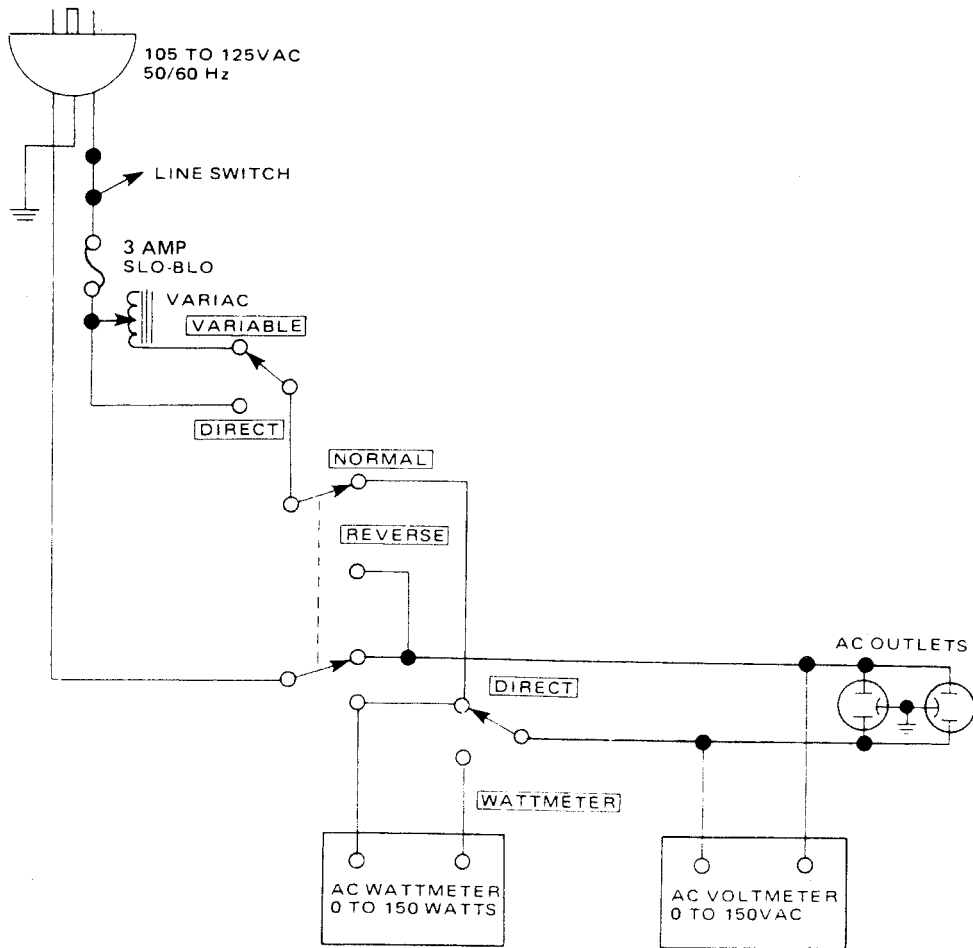
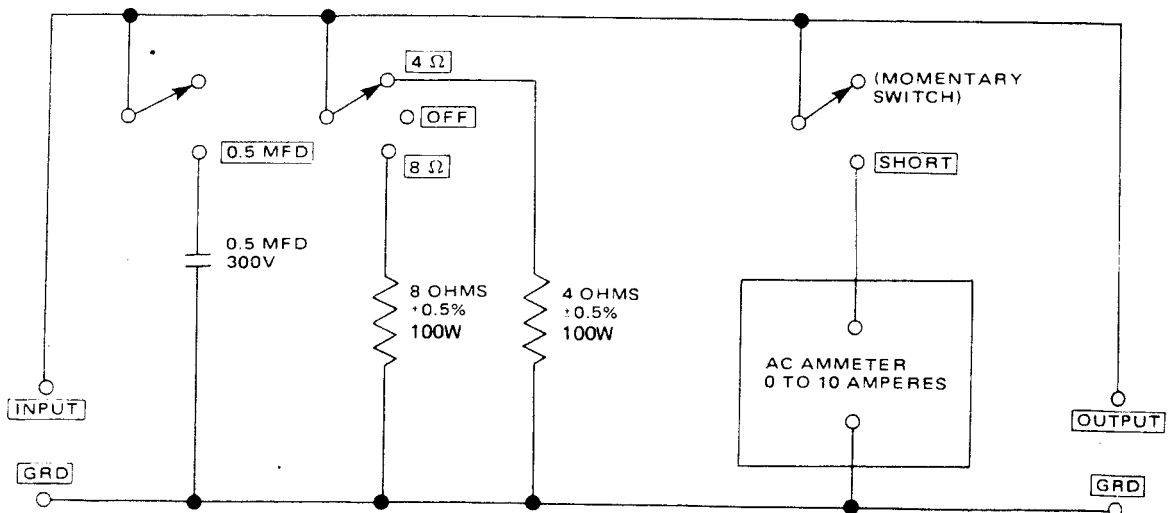

Figure 1. AC Power Control Box Simplified Schematic
Figure 2. Amplifier Output Load Box Simplified Schematic
Table 1 lists the test equipment required for servicing the PM 310 Stereo Console Amplifier. The wattmeter, AC voltmeter, and variable autotransformer may be assembled as a test fixture as shown schematically in Figure 1. The load resistors and AC ammeter may be assembled into a second test fixture as shown in Figure 2.
1. Make the test setup shown in Figure 1 with the instrument controls set in the following positions:
| AC Power Control Box | Optional Item. Fabricate in accordance with Figure 1 | Monitors and controls primary power for amplifier |
| Amplifier Output Load Box | Optional Item. Fabricate in accordance with Figure 2 | Provides various amplifier loads and can monitor shorted output |